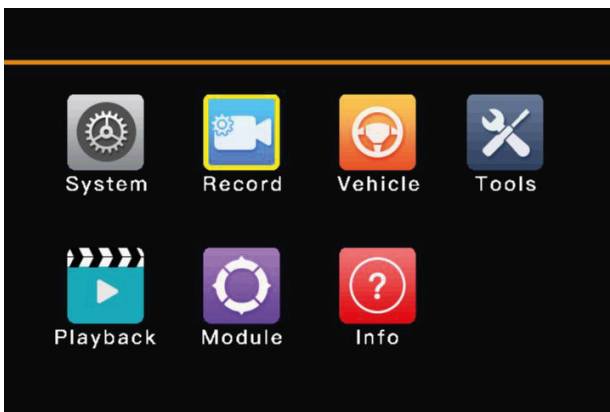

Figure 3-11
3.3 Record Setup (Figure 3-11)